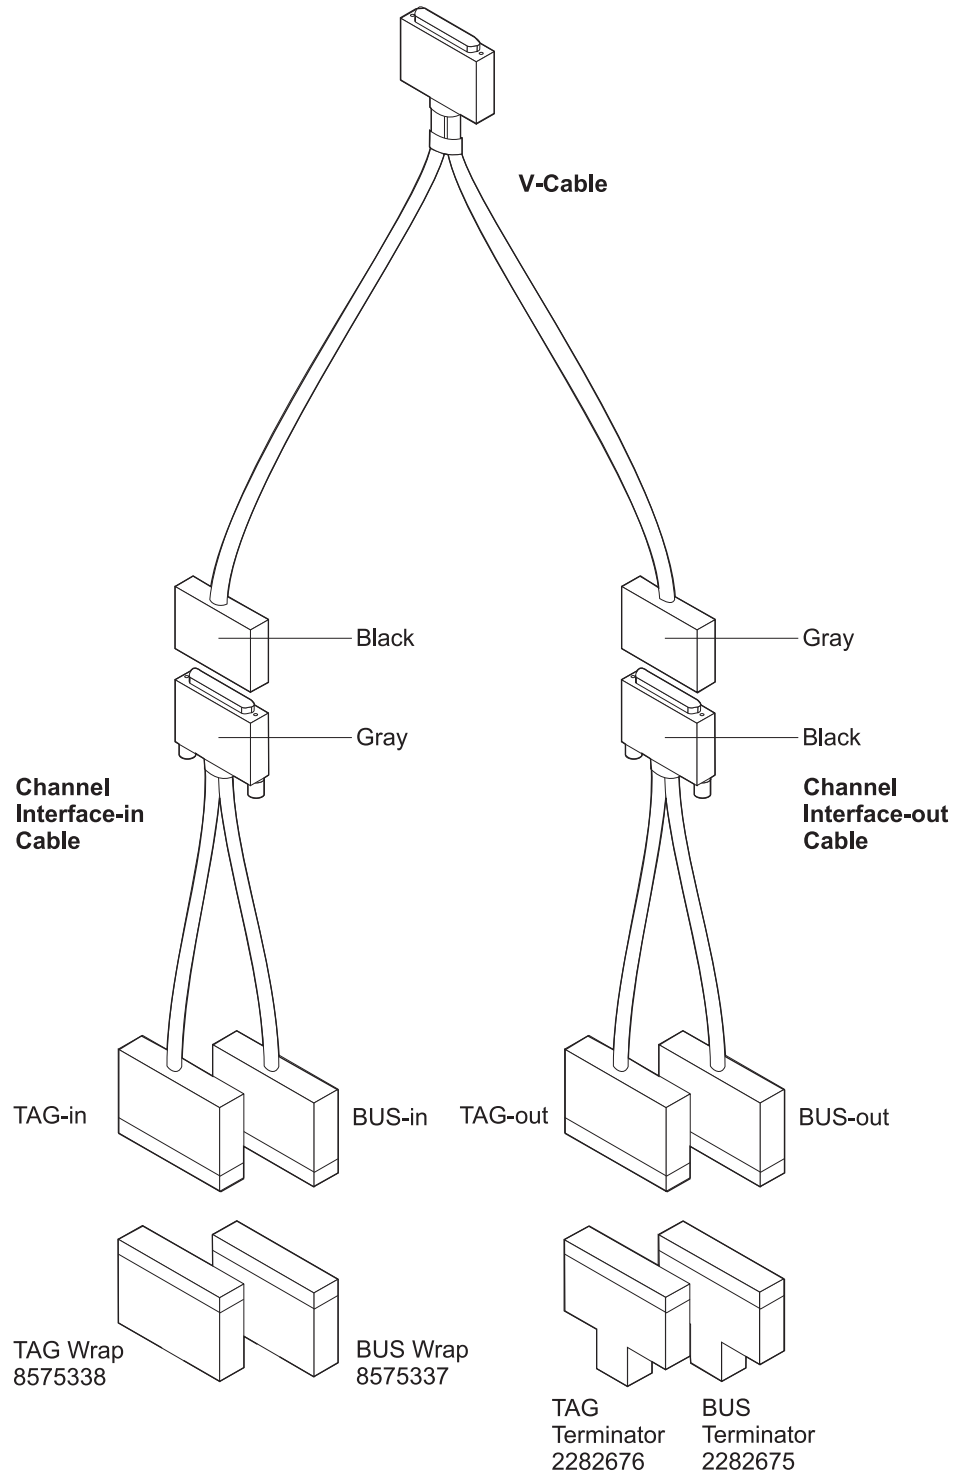

Figure 1-9. All Cables Wrap Test Connections
4. V-cable, Channel Interface-in, and Channel Interface-out, see Figure 1-9 on page 1-27